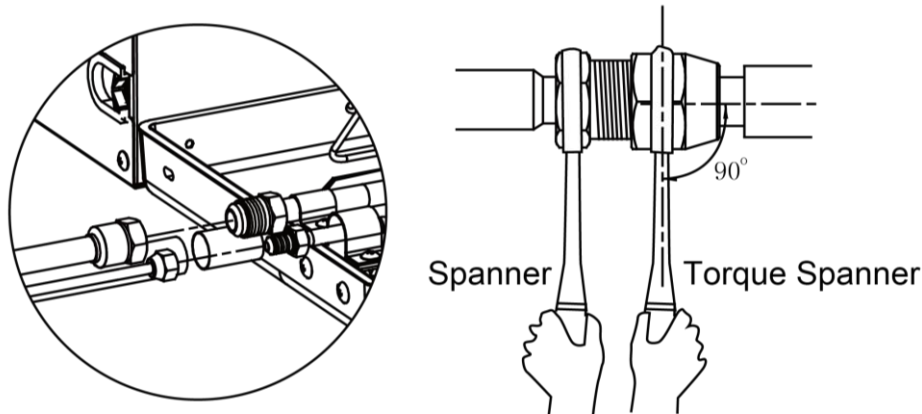

Fig.23
- (1) Conform to the following principles during piping connection: Connection pipeline should be as short as possible. The height difference between indoor and outdoor units should be as short as possible. Keep number of bends as little as possible. The radius of curvature should be as large as possible.
- (2) Weld the connection pipes between indoor and outdoor unit. Please strictly conform to the requirements for welding process. Rosin joints and pin holes are not allowable.
- (3) When laying the pipes, be careful not to deform them. The radius of bending parts should be more than 200mm (7-7/8in.). The pipes cannot be repeatedly bent or stretched, otherwise the material will get harder. Do not bend or stretch the pipe over three times at the same position.
- (4) Please use a torque wrench to connect union nut on the indoor unit. See Fig. 23.